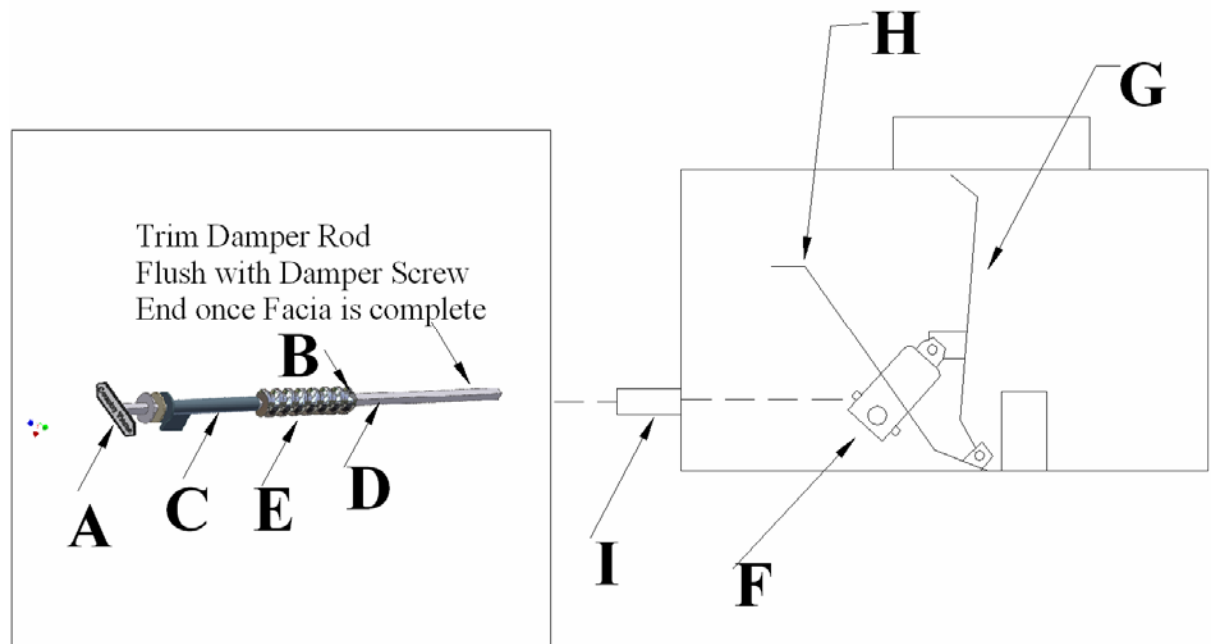
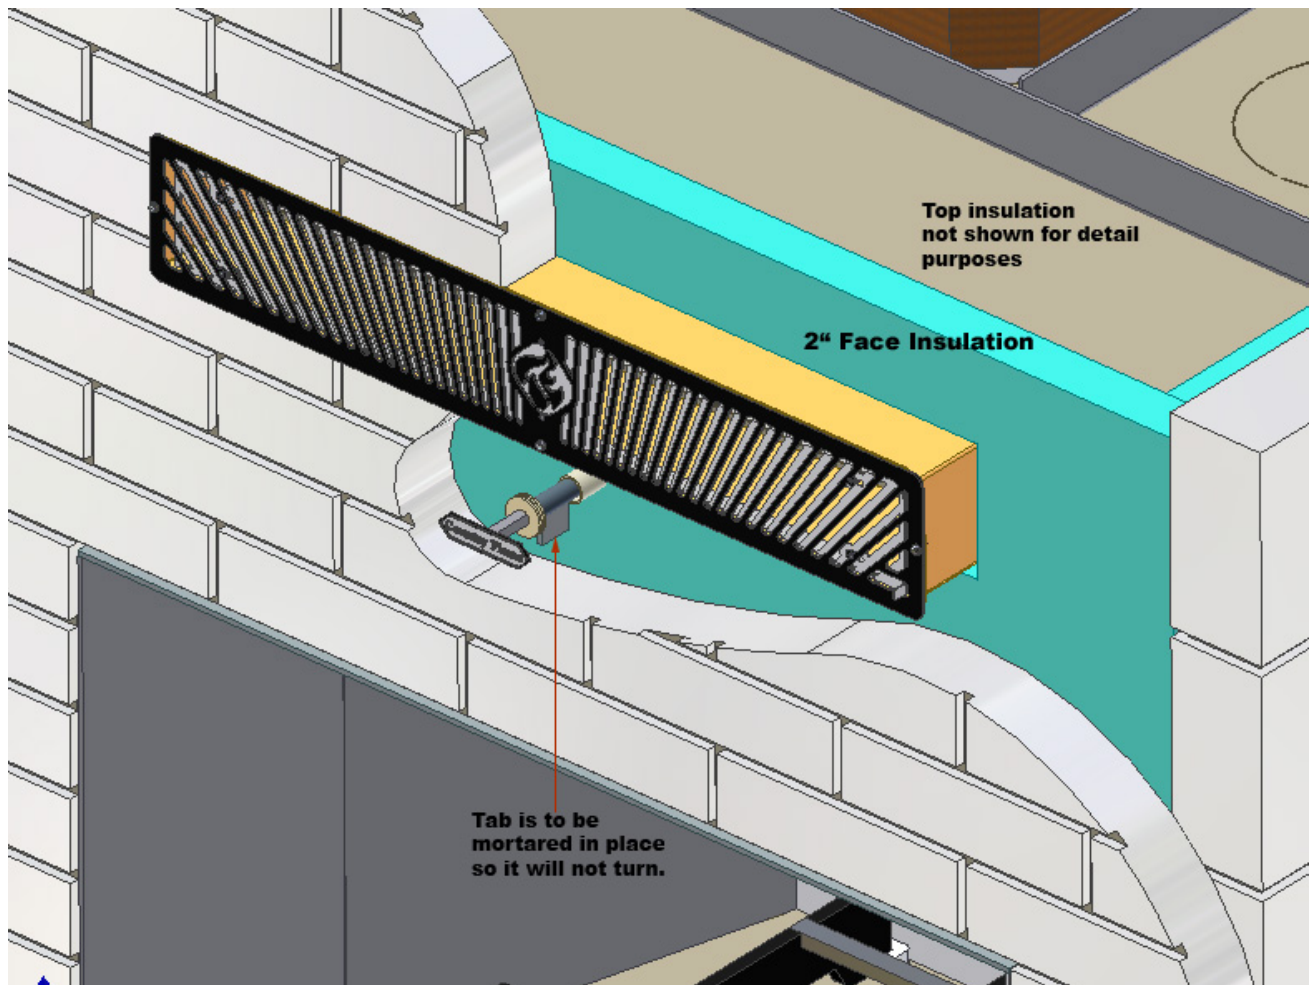

FIGURE 10: DAMPER PARTS
FIGURE 11b: DAMPER DOOR CONTROL
3. FIGURE 10 defines all the working components of the fireplace damper system. When building the front masonry brick, be sure to locate and mortar in the adjustable damper rod sleeve, FIGURE 10, item (C).
Country Flame's rotary controlled flue damper should be assembled as shown in FIGURE 10 after the fireplace is completely installed. The flue damper is extremely important to energy savings, reducing heat loss, and controlling a fire. The flue damper acts as a valve, closing off the opening to the chimney when a fire is not burning. Closing the damper reduces the amount of home heat or air conditioning that will be lost through the chimney.
Step 8 assumes that all masonry is complete and the adjustable rod sleeve, Item (C), FIGURE 10 has been or is ready to be embedded in the masonry veneer so that it cannot move. Refer to FIGURE 11b for more details on embedding Damper Handle Tab in mortar. Review FIGURE 10 to ensure a basic knowledge of each damper part and damper part name. Then follow the steps listed below in order to complete the installation of the rotary controlled damper rod. **WARNING:** Improper installation or operation of the damper system will make any fire difficult to control. Ensure the damper area is free from all construction or mortar debris.
The damper parts shown in FIGURE 10 are defined as follows:
INSTALLING DAMPER DOOR - The rotary controlled damper of your Country Flame Fireplace should be assembled as shown in FIGURE 10 after the fireplace is completely installed. At this time the adjustable damper rod sleeve (C) will be embedded in the masonry veneer and cannot turn. Follow the steps below to complete the installation of your rotary controlled damper.
1. Begin with the damper door (G) in the fully open position. Insert the damper rod (D) through the adjustable damper rod sleeve (C) from the front of the fireplace.
2. From inside the fireplace guide the washer (J) over the end of the damper rod (D).
3. Reach inside the fireplace and slide the damper screw (E) over the end of the damper rod (D) with the setscrew opening positioned toward the rear of the fireplace.
4. Push the damper rod (D) as far toward the rear of the fireplace as possible. Push the damper screw (E) as far to the front of the fireplace as possible.
5. Mark the damper rod (D) flush with the end of the damper screw (E).
6. Remove the assembly and cut the damper rod (D) off at the mark you made in Step 5.
8. Insert the damper screw (E) into the damper screw bracket (F) and turn it completely counter clockwise until it seats.
9. Slide the end of the damper screw (E) without the setscrew opening over the end of the damper rod (D) and push both the damper screw (E) and the damper rod (D) toward each other as far as possible.
10. Tighten the setscrew (B) at the back of the damper screw (E).
NOTE: At installation, ensure the Damper Handle tab is mortared in place to prevent it from turning during use. Refer to FIGURE 11b for more detail on the Damper Handle.